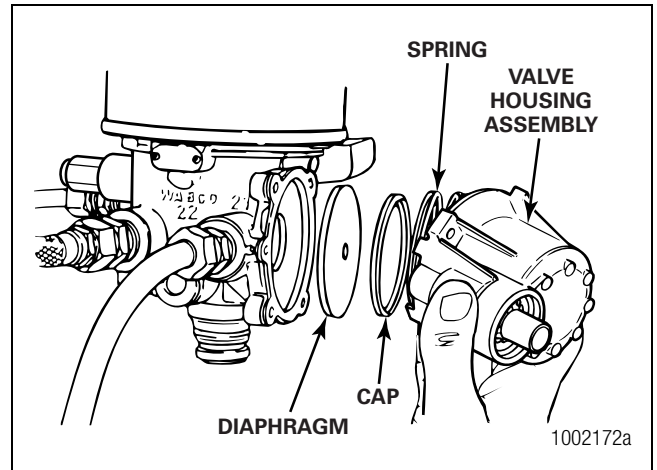

Figure 3.12
- Install the new spring and cap with the cap lip facing out. Install the valve housing assembly with the new lubricated O-ring and filter over the orifice. Install the new mounting bolts and tighten to 53 in-lb (6 N•m). Figure 3.12.